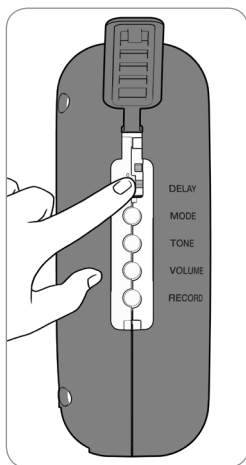

Fig. 8
2. Slide the toggle switch to the desired delay setting, 0-1-2 (Fig. 8). An audible cue will confirm the current delay setting.